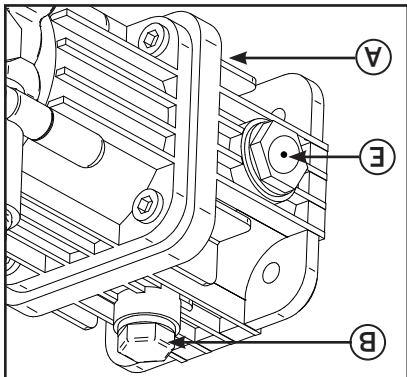

Figure 14
2. Unscrew brass oil drain plug (A on figure 14 under the pump).
5. Unscrew the oil filler cap (B on figure 14).